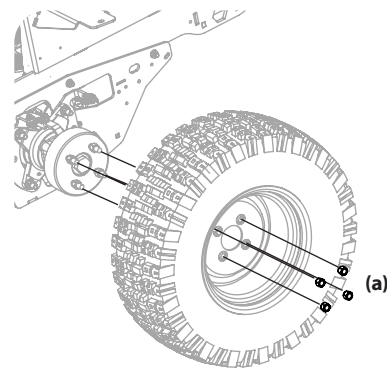

Figure 4-14
1. Remove the four lug nuts (a) to remove the tire. See Figure 4-14.